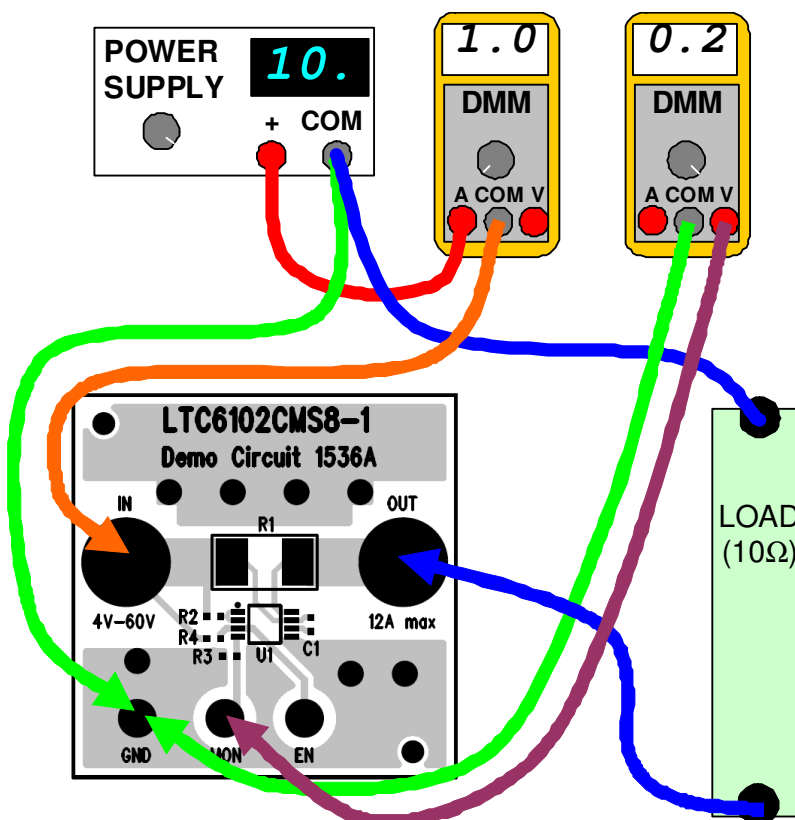

Figure 1. Proper Measurement Equipment Setup
Demonstration circuit 1536 is easy to set up to evaluate the performance of the LTC6102-1. Refer to Figure 1 for proper measurement equipment setup and follow the procedure below:
1. With power off, connect the power supply positive to IN and the common to GND. This supply should be in the range of 4V to 60V. If this supply is not equipped with an accurate current readout, a DMM (set to measure Amperes) may be connected in series with the supply as shown in Figure 1.